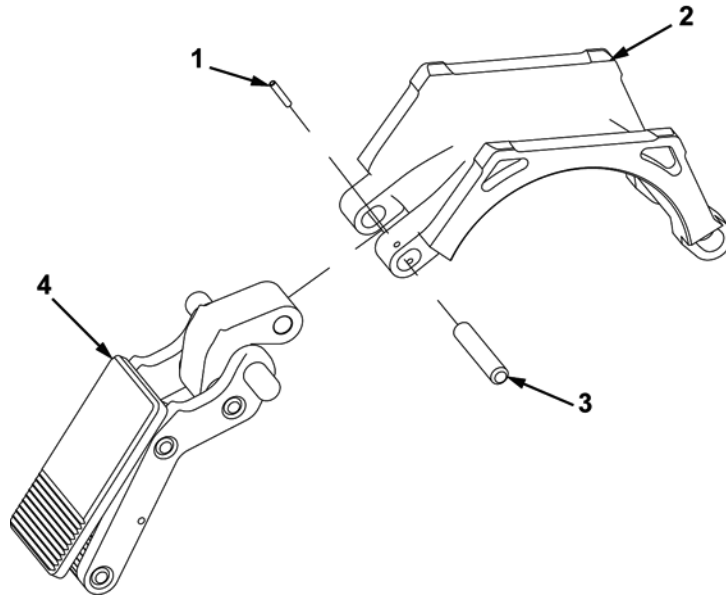

Figure 2. Disassembly of Clamp Assembly.
4. Remove slotted spring pin (Figure 2, Item 1) from parallel pin (Figure 2, Item 3). Discard slotted spring pin.
5. Using punch, remove parallel pin (Figure 2, Item 3) and discard from upper clamp (Figure 2, Item 2). Separate clamping catch (Figure 2, Item 4) from upper clamp.